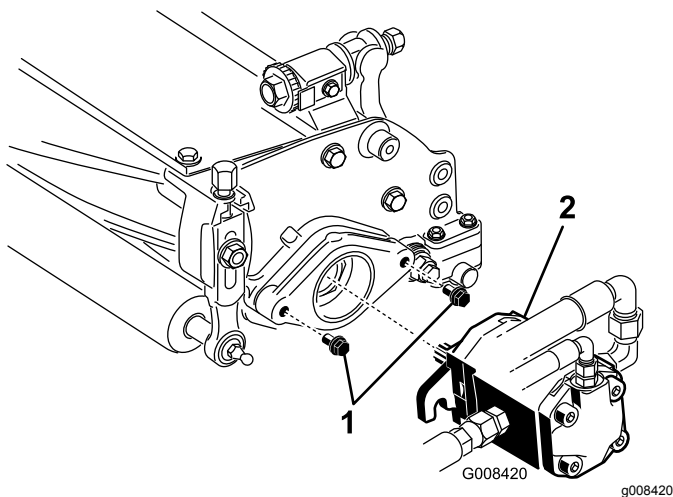

Figure 11
7. Ensure that there is approximately 13 mm (1/2 inch) of the threads exposed on each reel drive motor mounting bolt (Figure 11).
8. Coat the spline shaft of the motor with clean grease and install the motor by rotating the motor clockwise so that the motor flanges clear the studs. Rotate the motor counterclockwise until the flanges encircle the studs (Figure 11).
9. Tighten the mounting bolts (Figure 11).